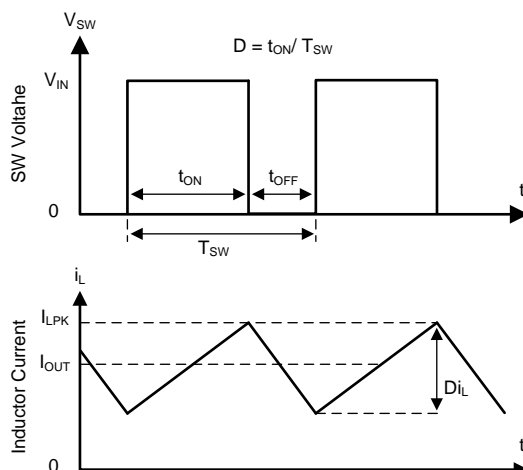

图 13. SW Node and Inductor Current Waveforms in Continuous Conduction Mode (CCM)
The following operation description of the TPS560430 will refer to the Functional Block Diagram and to the waveforms in 图 13. TPS560430 is a step-down synchronous buck regulator with integrated high-side (HS) and low-side (LS) switches (synchronous rectifier). The TPS560430 supplies a regulated output voltage by turning on the HS and LS NMOS switches with controlled duty cycle. During high-side switch ON time, the SW pin voltage swings up to approximately V_{IN} , and the inductor current i_L increase with linear slope $(V_{IN} - V_{OUT}) / L$. When the HS switch is turned off by the control logic, the LS switch is turned on after an anti-shoot-through dead time. Inductor current discharges through the low-side switch with a slope of $-V_{OUT} / L$. The control parameter of a buck converter is defined as Duty Cycle $D = t_{ON} / T_{SW}$, where t_{ON} is the high-side switch ON time and T_{SW} is the switching period. The regulator control loop maintains a constant output voltage by adjusting the duty cycle D . In an idea Buck converter, where losses are ignored, D is proportional to the output voltage and inversely proportional to the input voltage: $D = V_{OUT} / V_{IN}$.